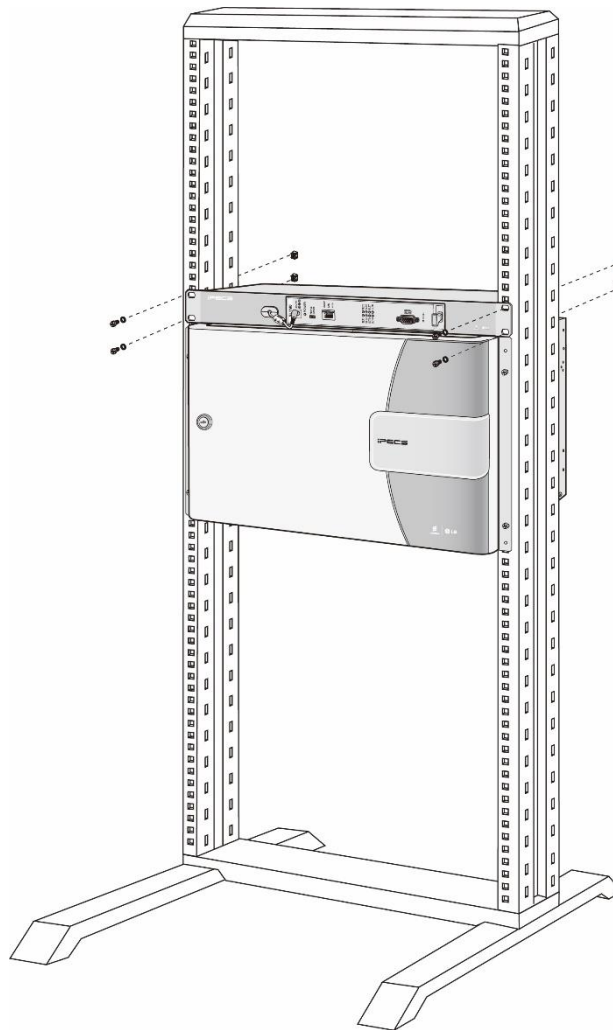

Figure 5.6-3 1U-RMB Rack-mount Installation
- 3) Install the 1U-RMB in a standard 19" rack securely with four (4) appropriate machine screws, nuts and lock-washers. Refer to Figure 5.6-3.